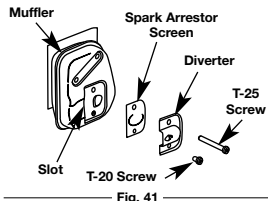

Fig. 41
- With a flat blade screwdriver or Torx T-20 bit and a T-25 bit, remove the screws attaching the spark arrestor cover to the muffler (Fig. 41).